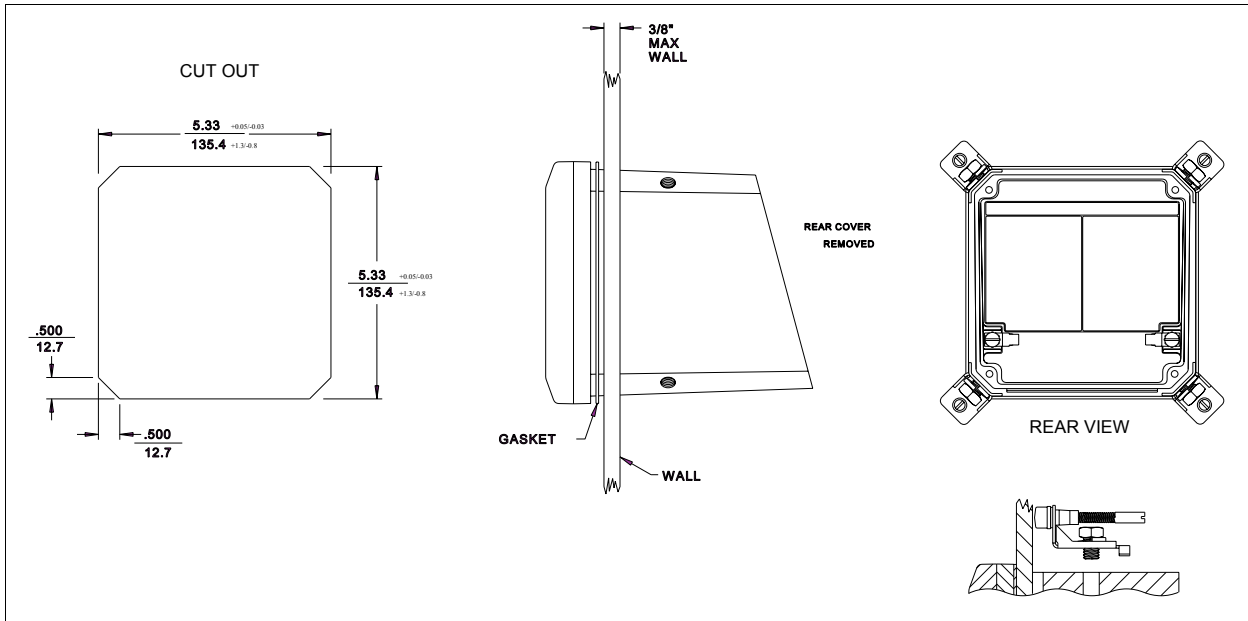

Figure 3-5. Panel Mount Installation Diagram
Using Figure 3-5 as a reference, mount the TB84TC analyzer as follows:
- 2) Cut a 135.4 mm x 135.4 mm hole with diagonal corners through the panel as shown in Figure 3-5.